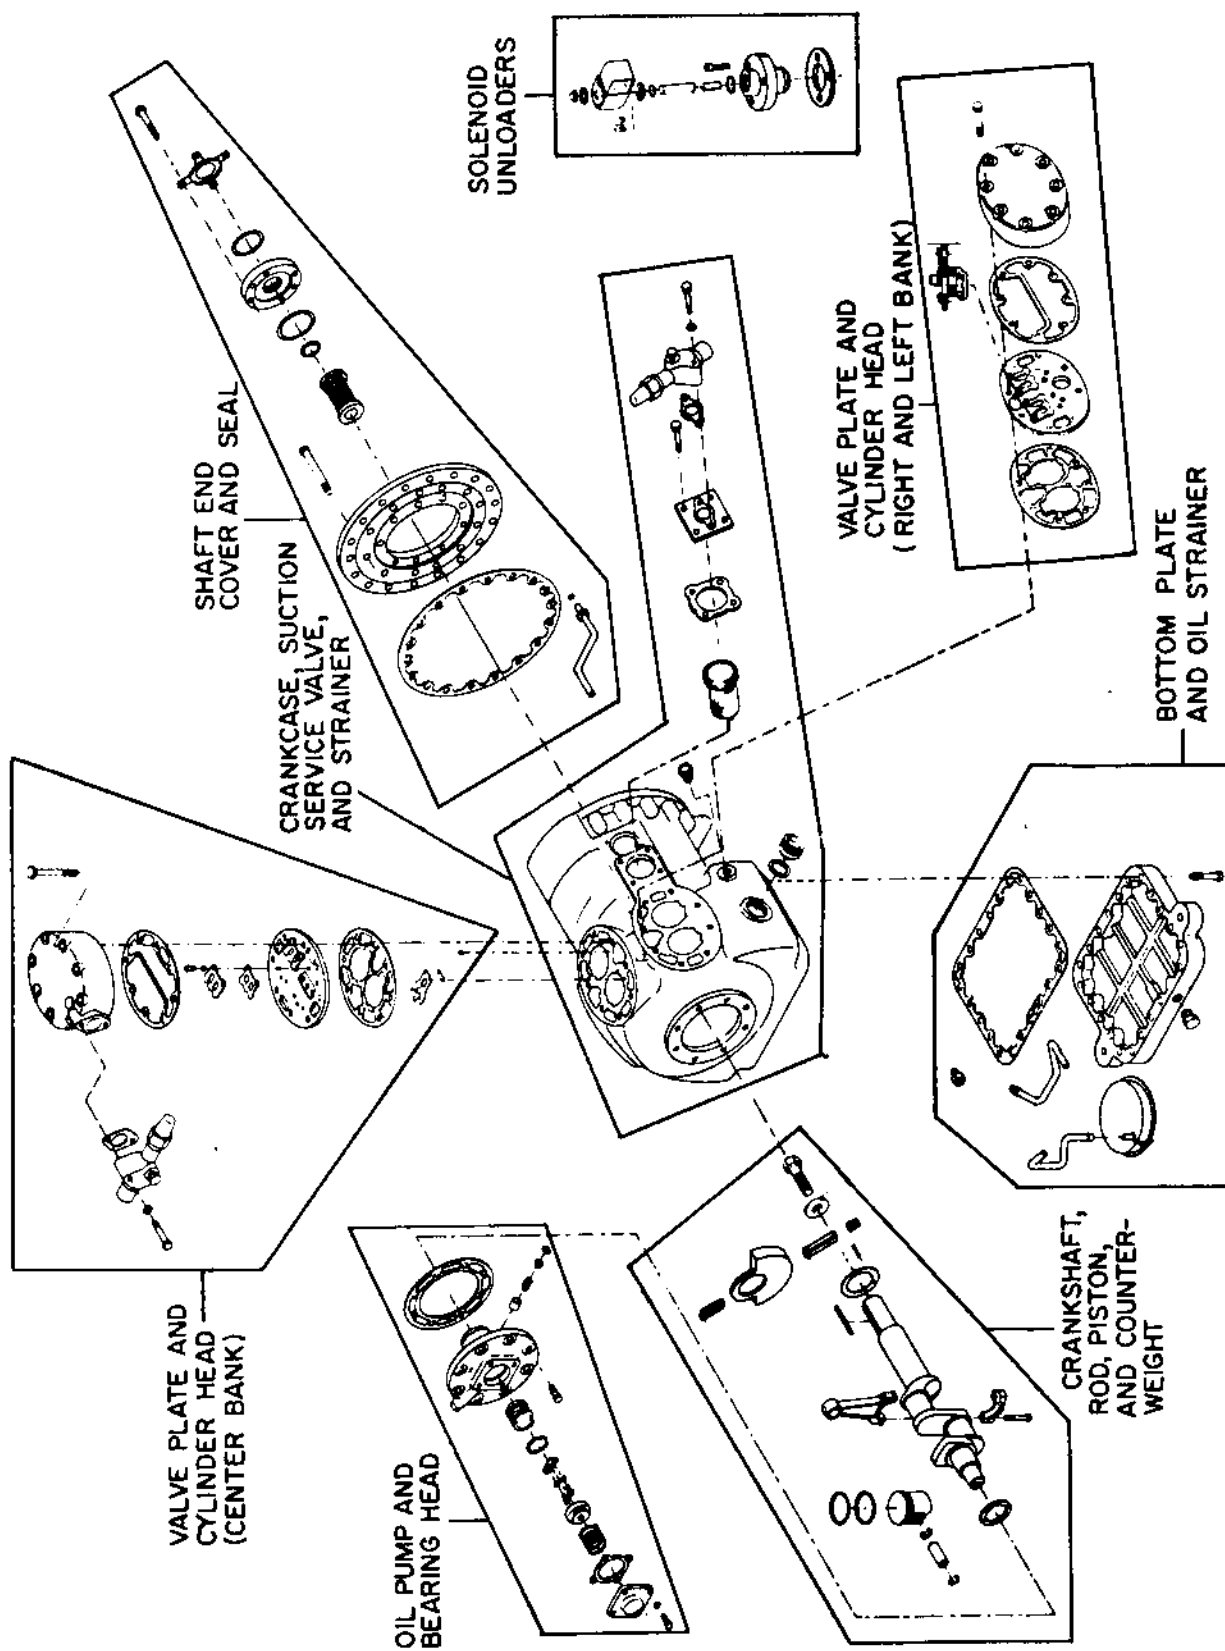

Figure 3-4. Compressor Exploded View
If a faulty part in the compressor is to be replaced, it may be necessary to remove other parts first. Therefore, the disassembly instructions that follow are arranged in the order for complete disassembly. See figure 3-4, page 3-5, for an exploded view of the compressor. Refer to table 3-2 for permissible wear limits and table 3-1 for torque values for tightening bolts.
a. Loosen cylinder head capscrews. If the head is stuck, tap it lightly with a wooden or lead mallet to free it. Be careful not to drop the head or damage the gasket sealing surface. Remove cylinder head capscrews and gasket. See figure 3-4.